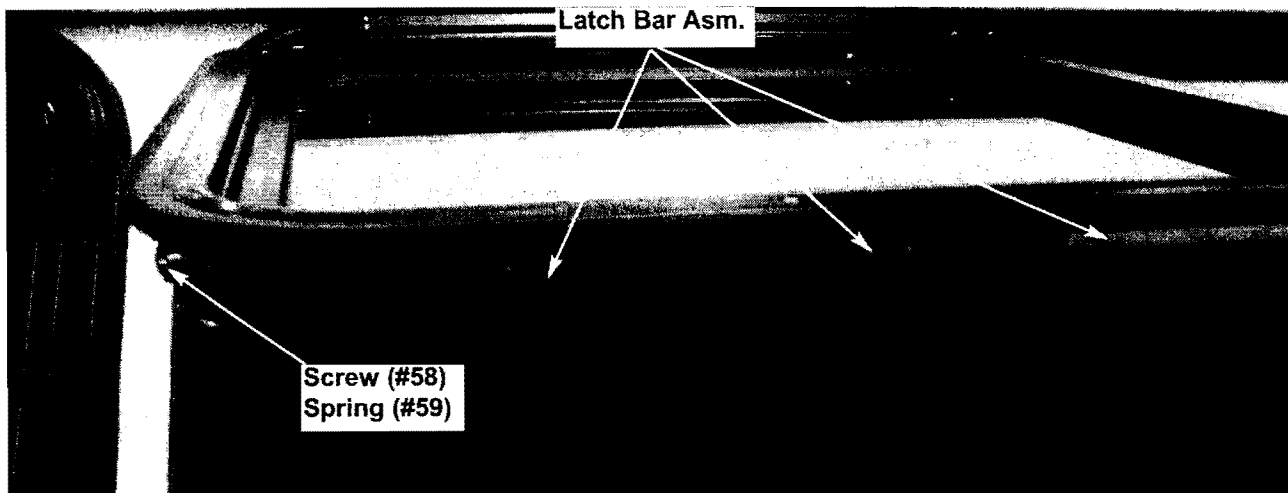

FIGURE 3
- 2.2 Remove screw (#58), which secures spring (#59) to the Inner Frame. (**Figure 3**) Disconnect the cable (#70) from the egress handle. **Figure 4**